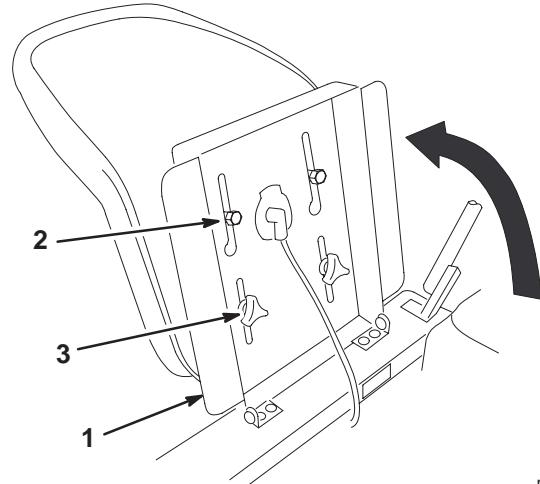

Figure 5
3. Raise the seat support on the machine (Fig. 5).
4. Slide the shoulder bolts on the bottom of the seat into the slots on the seat support (Fig. 5). Secure the seat to the seat support with the flat washers and knobs removed in step 2 (Fig. 5).